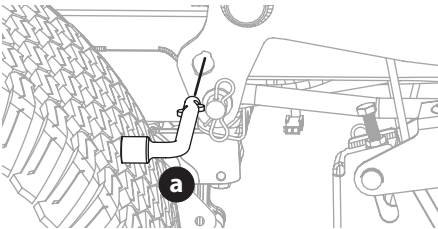

Fig. 39
- Use the deck lift pedal and deck lift knob to place the deck in the lowest position and use the multi-tool (a) to lock the deck lift components in place (Fig. 39).